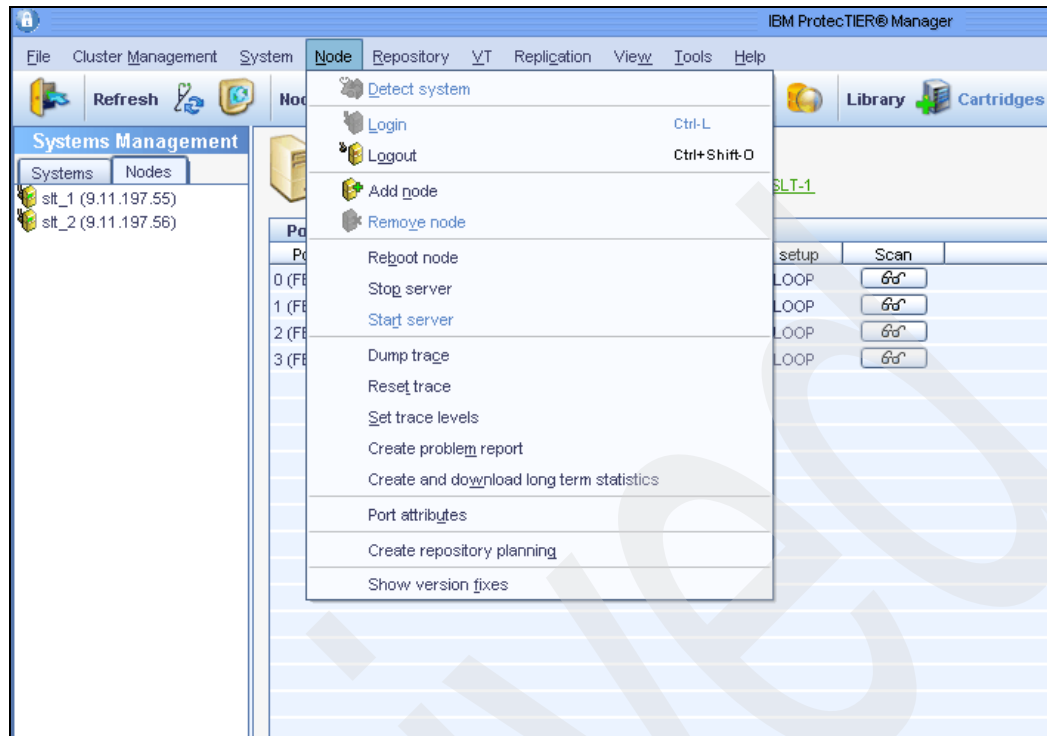

Figure 8-33 ProtecTIER Manager “Select Node”
3. Select **Node** → **Stop ProtecTIER server** (Figure 8-33 on page 217).